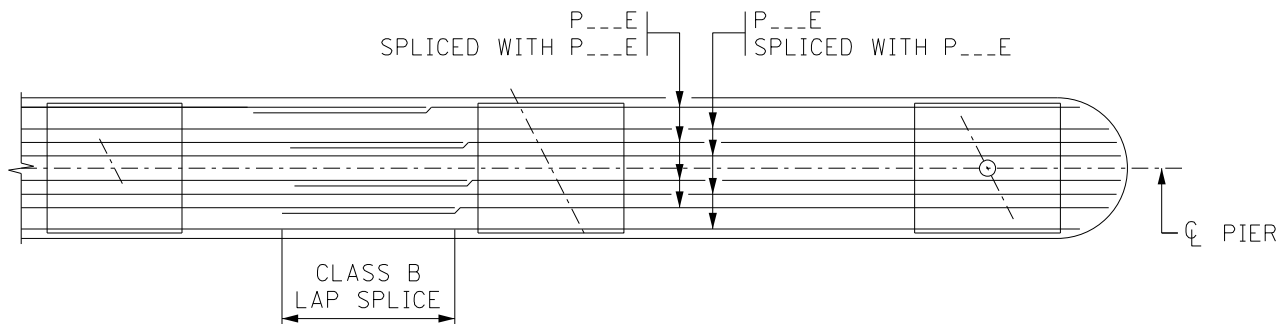

Figure 6
1. Splice all longitudinal top bars to allow for adjustment in overall length at the ends of the pier cap (especially important for pier caps that do not have square ends). (See Figure 6.)
2. Use the same two bar marks with alternating lap location for all top longitudinal bars in the pier cap. The amount of lap may exceed the minimum, where the total length is shorter. (See Figure 6.)